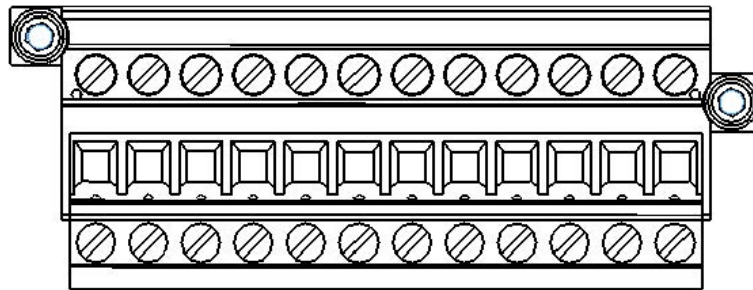

Figure 11: Mating terminal block (TB2) in electronics enclosure for connecting signal cables
4. Strip back the jacket and insulation of the current loop, digital output relays and serial cables (shown in Figure 4 or Figure 7f) just enough to connect to the mating terminal block (TB2), shown in Figure 11. The mating terminal block can be pulled up and removed from its base to make the cable connection process easier.